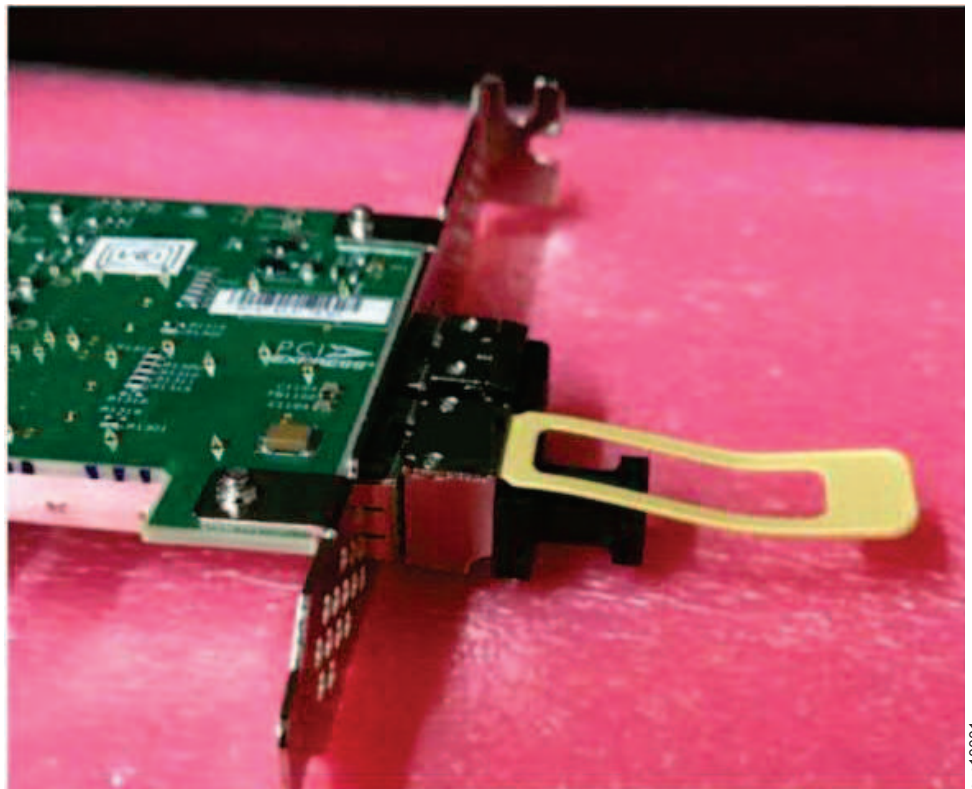

Figure 145. 25 Gbps SFP transceiver (RoCE)
- Figure 145 shows an example of an SFP transceiver for a 25 Gbps (RoCE) networking adapter. To release this type of SFP transceiver, gently pull on the protruding tab of the SFP.
- To insert an SFP transceiver like the one shown in Figure 145, press the transceiver into its slot until the device clicks into place.